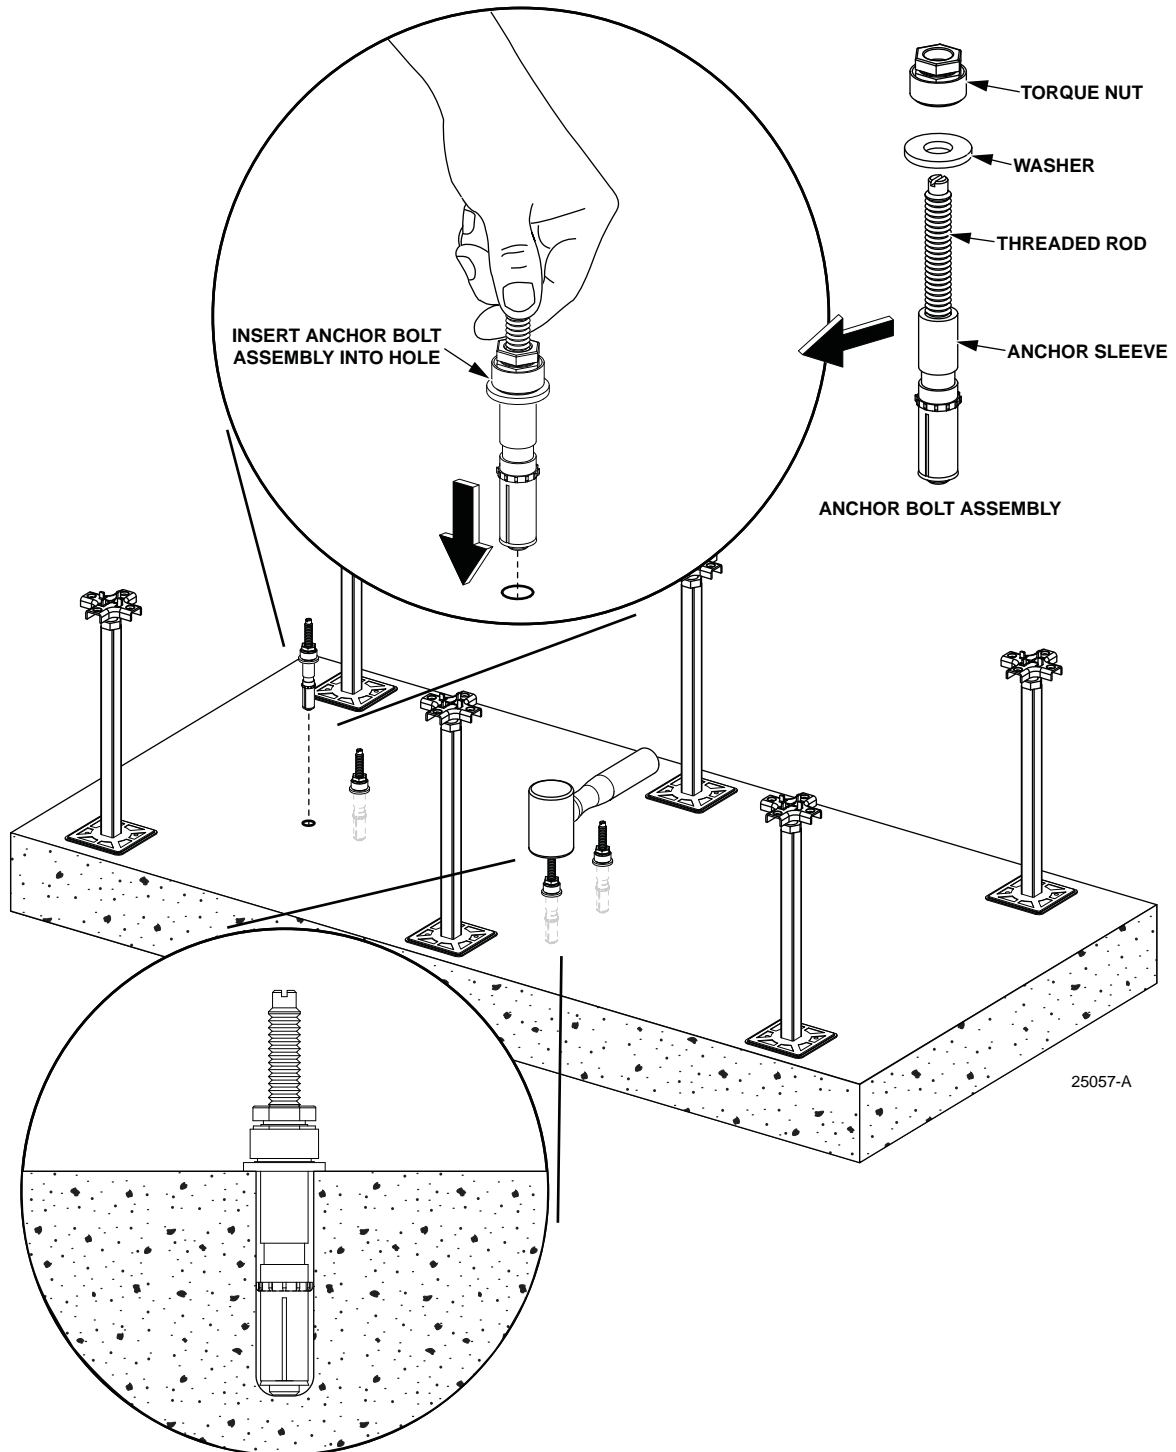

Figure 15. Setting Anchor Bolts
14. Thread the washer and torque nut onto the threaded rod of the anchor bolt. The washer should touch the top of the anchor sleeve. Insert the anchor bolt assembly into the hole just drilled. Using a hammer, tap the anchor bolt assembly into the hole until the washer touches the concrete. Refer to Figure 15.